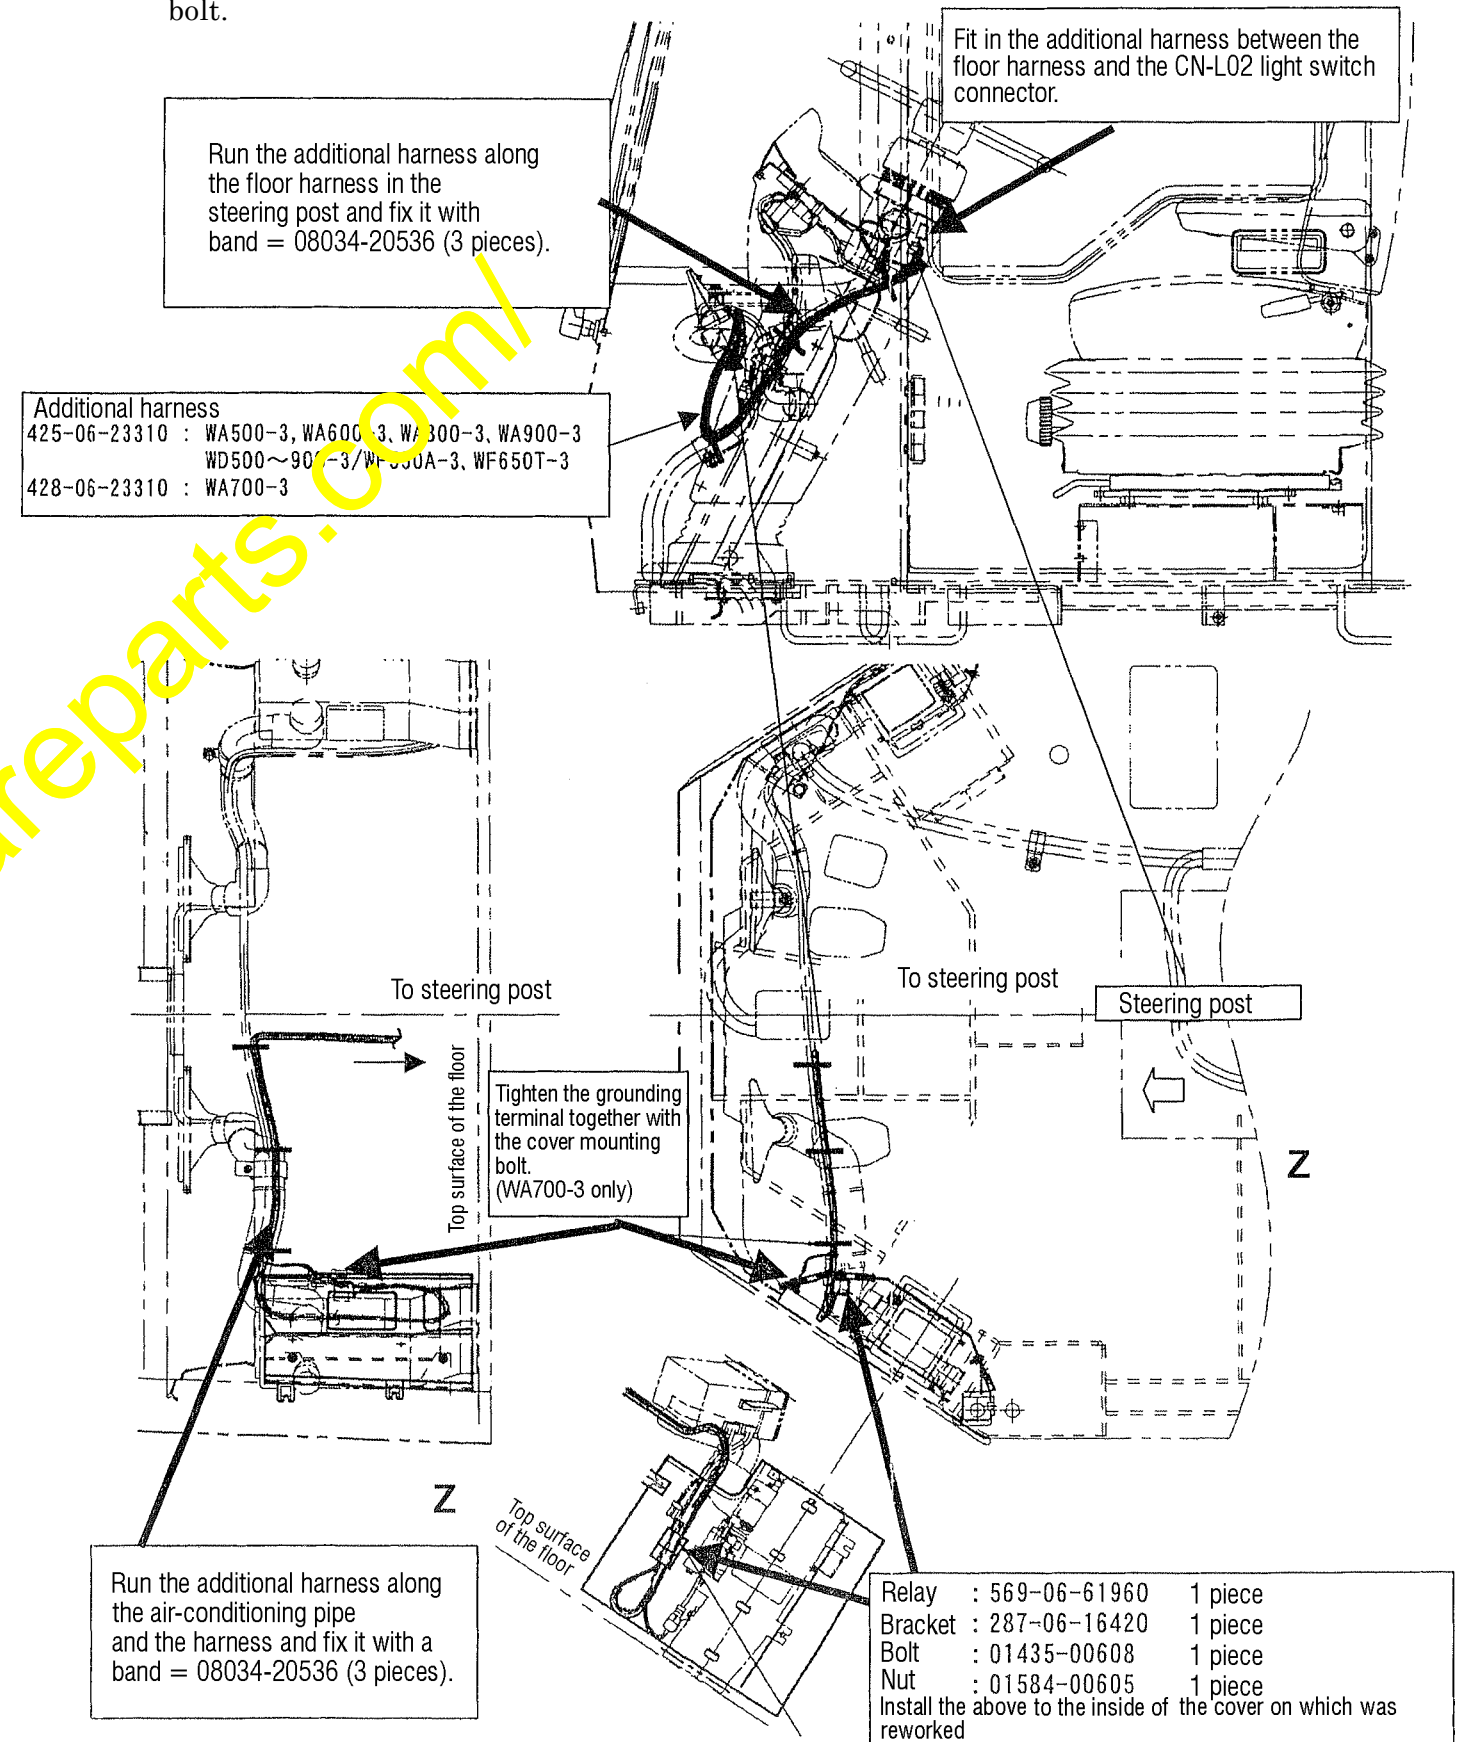

Fig. 10
Step 3) Install a relay on the cover at the left front of the cab on which additional work was conducted (For details, see Fig.10.)